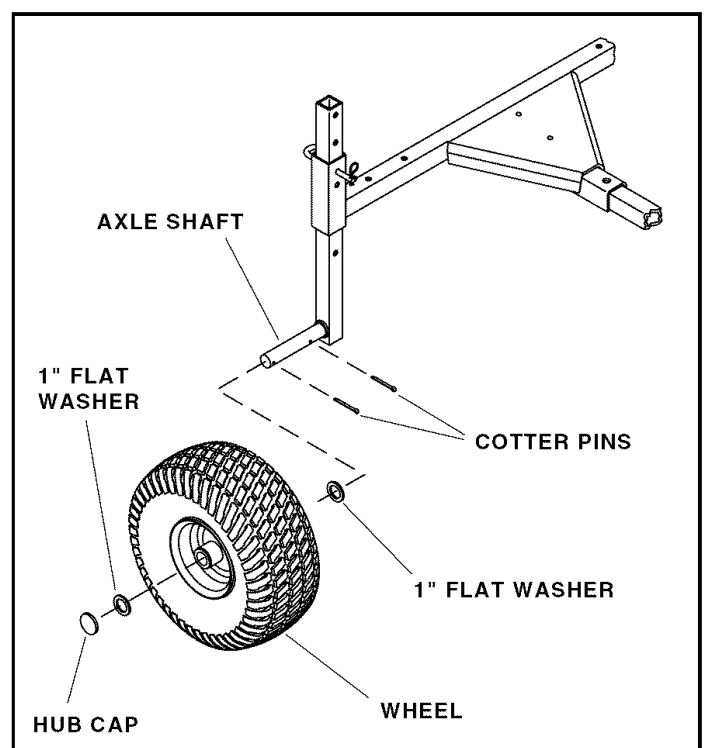

FIGURE 3
4. Install the wheels (see figure 3):